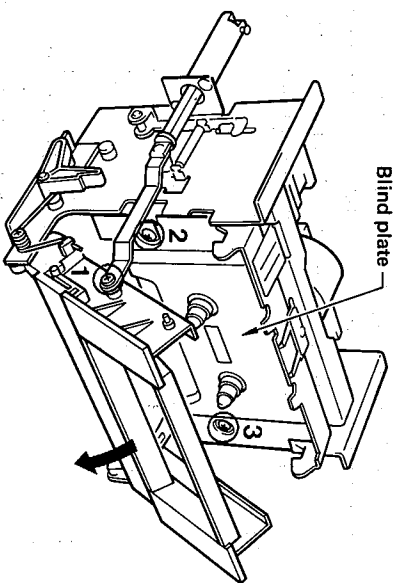

Fig. 5
- a. Remove screw ① in fig. 5 and open the cassette holder.
- * Be careful of the spring position when assembling unit. (Refer to fig. 5)
- c. Remove screws ② and ③ in fig. 5 and then remove the blind plate.